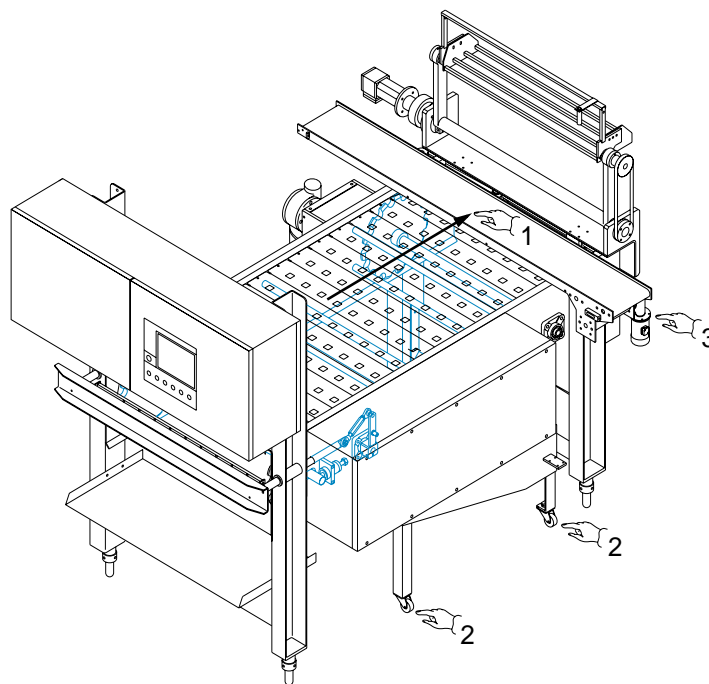

Fig.4.3
to right (*Pos. 1, Fig. 4.3*) when looking at the machine from the operator's side.
- Position the coating tank assembled on its wheels (Pos. 2, Fig. 4.3) in the correct position underneath the pick-up machine.
- Position the smooth belt for products without sticks (Pos. 3, Fig. 4.3) in the correct position on top of the pick-up machine.